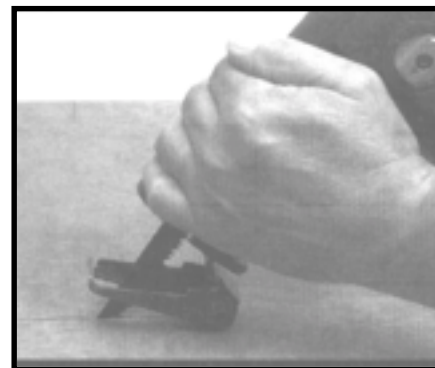

Fig. 3
The shoe (A) Fig. 3, serves as a rest while making a cut. It is pivoted so the saw may be gradually raised to a position perpendicular to the work as the saw is moved toward the operator.